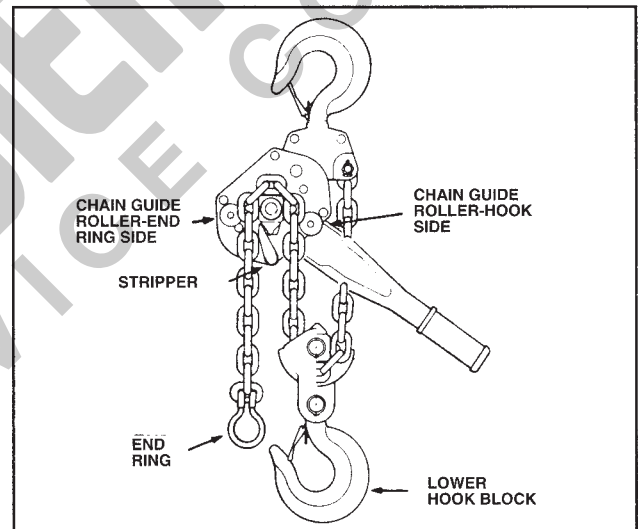

Figure 9. Reeving - 6 Ton
To install a new length of load chain, it is necessary to disengage the old chain from the upper hook hanger by removing the dead end bolt, nut and cotter pin. Then pull the old chain through the lower hook block. Arrange the tool for free chaining (see page 4) and pull the old chain through the unit. Disengage the free chaining feature and then set the directional lever to neutral (N). Make sure that the new, replacement chain has an odd number of links. Start an upstanding link of the replacement load chain into the hook side of the unit and between the chain guide roller and liftwheel, with the weld side of the upstanding links facing away from the liftwheel. Refer to Figure 9.
Feed the chain into the hoist while rotating the free chaining knob clockwise. Be sure to guide the chain between the liftwheel and the chain guide roller on the end ring side of the tool as shown in Figure 9. Continue to rotate the free chaining knob and pull on the loose end of the chain until a convenient length of chain has passed through the unit. Assemble the end ring to the loose end of the chain by rotating the last link 1/4 turn and passing the ends of the ring through the link as shown in Figure 9. Hammer the ends of the ring together to secure it to the chain. Place the hoist in a vertical position by supporting it from the upper hook. Remove any twists from the chain and feed it through the lower hook block and around the lower sheave. Making sure there are no twists in the chain, attach the last link of the chain to the hanger using the dead end bolt, nut and cotter pin.